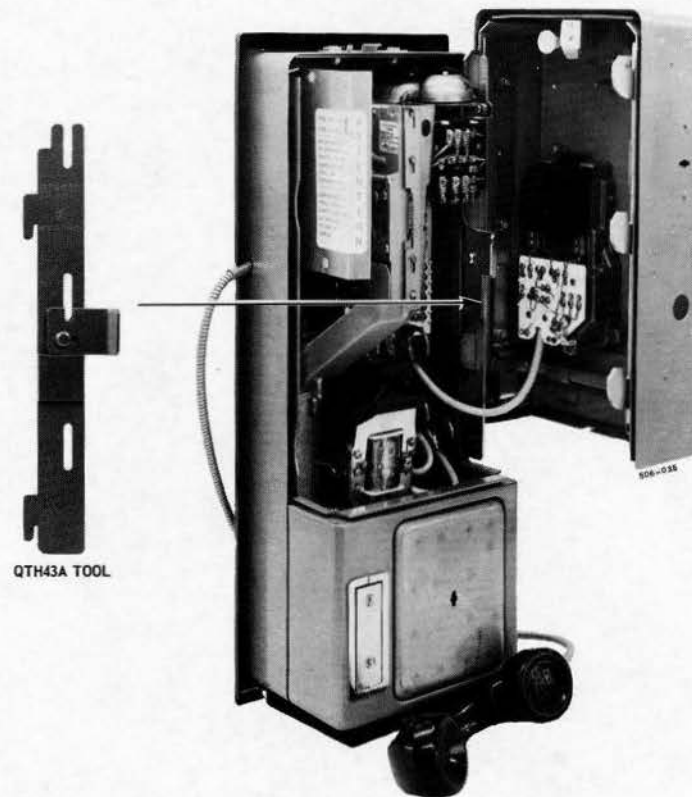

Fig. 1 — QSD400A1 or QSD2400A1 Coin Telephone Set Showing Cover Unit Assembly Removed and Supported by QTH43A Tool
1.04 For maintenance and testing purposes, the cover unit can be removed and supported with the QTH43A tool as shown in Fig. 1. The use of the QTH43A tool permits maintenance and testing functions to be conducted with the coin telephone set fully operational.
QTH43A Tool	Used to support the cover unit assembly on the housing unit assembly as shown in Fig. 1.